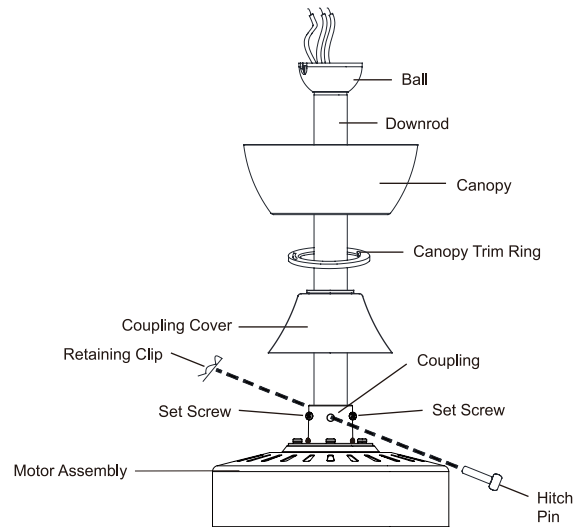

Fig. 9
WARNING: DO NOT loosen or remove the locking screws from the coupling. Loosening or removing the locking screws can cause the fan to fall from the ceiling. (Fig. 9)
Step 5. Carefully feed the wires from the coupling on top of the motor assembly up through the downrod. (Fig. 9)
Step 6. Thread the downrod into the coupling on top of the motor assembly until the hitch pin holes in the downrod and the hitch pin holes in the coupling are aligned. Carefully insert the hitch pin through the holes in the coupling and the downrod. (Fig. 9)
Insert the retaining clip through the hole in the hitch pin until it snaps into its locked position. (Fig. 9)
Step 7. Tighten the two set screws in the coupling on top of the motor assembly firmly. (Fig. 9)
Step 8. Carefully slip the coupling cover, canopy trim ring (smooth finished side facing motor body), and canopy onto the downrod. (Fig. 9)